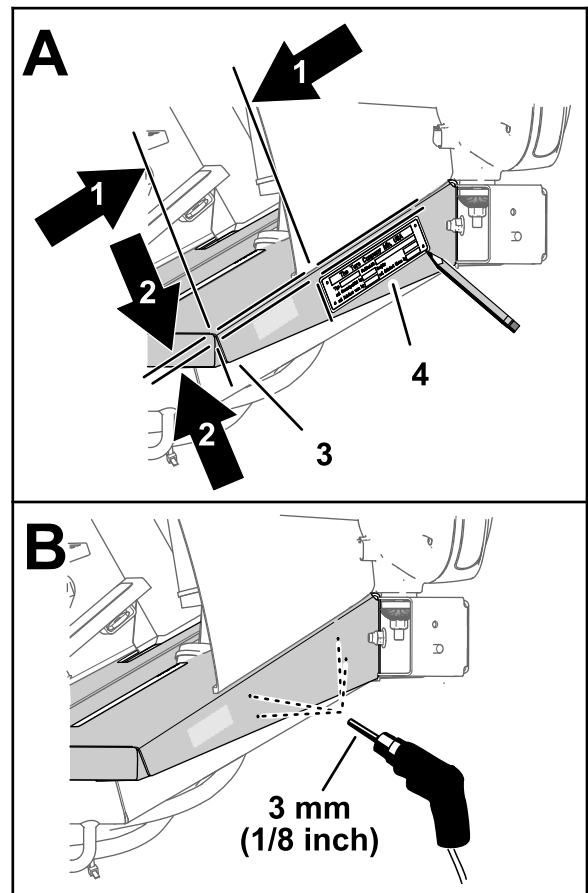

Figure 62
1. Align the left edge of the data plate 150 mm (5-15/16 inches) from the left corner of the floor-plate channel as shown in Figure 62.
2. Align the top edge of the data plate 150 mm (5-15/16 inches) from the top of the floor-plate as shown in Figure 62.
3. Mark the holes in the data plate onto the floor-plate channel with a pencil (Figure 62).
5. Drill 4 holes 3 mm (1/8 inch) at the centerpunch marks (Figure 62).